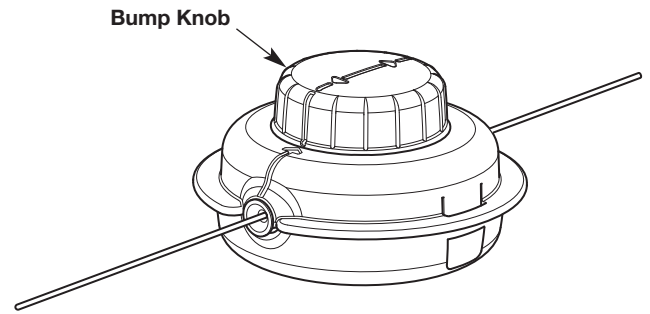

Fig. 21
- Turn the bump knob to wind the line until about 5 inches (12.5 cm) protrude from each side of the cutting head (Fig. 21).